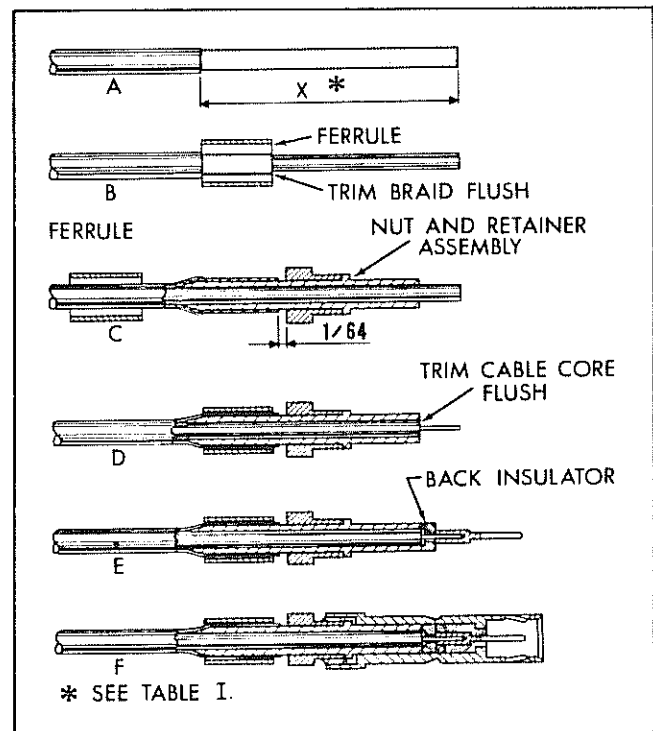

Figure 2-2. Type I Contact Assembly Steps.
- a. Remove length ("X" dimension) of cable outer sheath from end of cable (A, figure 2-2).. Hot wire stripping is recommended to avoid cutting or nicking center conductor.
- b. Slide ferrule over outer braid flush with edge of outer sheath (B, figure 2-2).
- d. Slide ferrule over outer sheath (C, figure 2-2). On some coaxial cables this ferrule will not move back over the outer sheath due to diameter interference. Position the nut and retainer assembly inside the outer braid while holding the ferrule in position over the outer braid. Crimp as described in step f.
- f. Slide ferrule over outer braid and crimp braid between ferrule and retainer with Thomas & Betts Crimping Tool* (D, figure 2-2).. Make certain nut turns freely after crimping.
- h. Slide back insulator over center conductor until it butts against end of retainer (E, figure 2-2)..
- k. Position packing over inner contact and against back insulator (F, figure 2-2)..